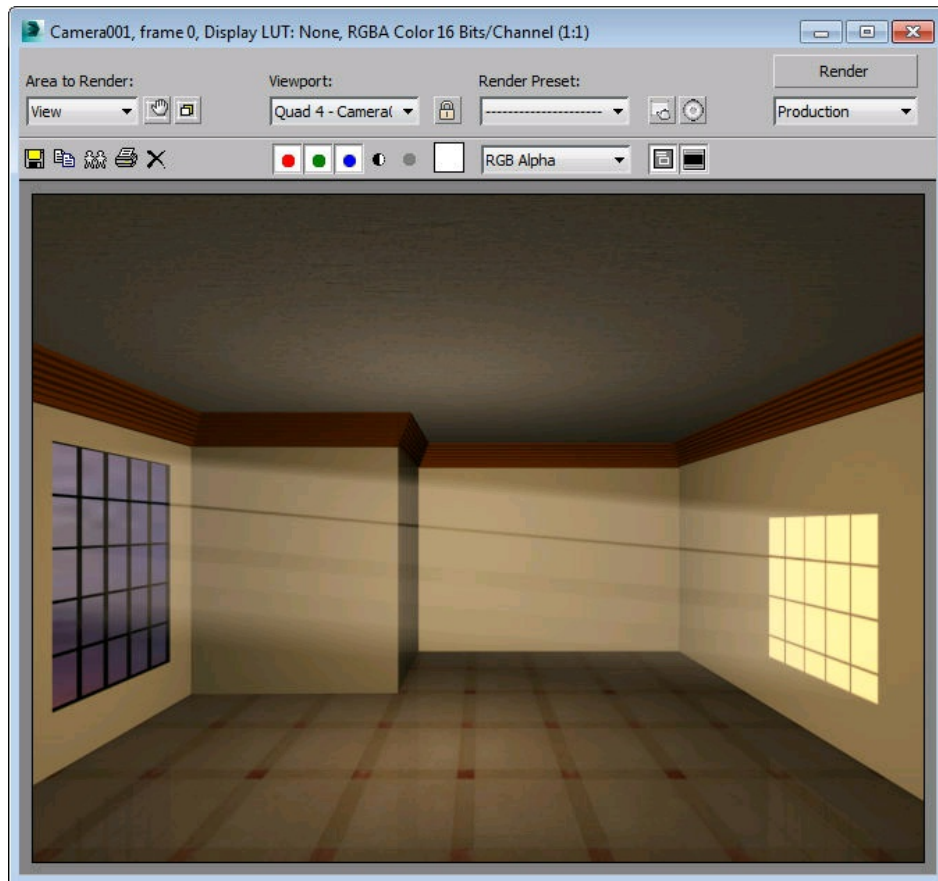

Figure 13-68 The final output after rendering
2. Choose the **Render Production** tool in the **Main Toolbar**; the **Rendered Frame** window is displayed, showing the final output of the scene, as shown in Figure 13-68.